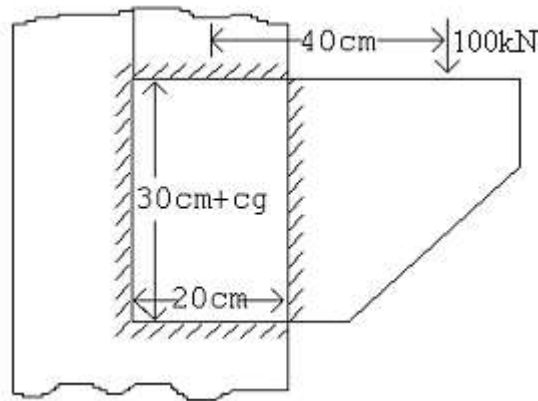

Figure: 2
3. Find the size of weld required for the welded bracket loaded as shown in the Figure 2, if the allowable shear stress in the weld = 100 N/mm^2 . [16]
3. Find the size of the weld for the bracket connecting a plate to a column flange shown in Figure 2, taking the permissible shear stress in the weld = 100N/mm^2 . [16]